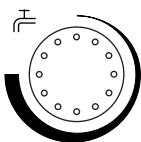

Fig. 9
4. **Domestic Hot Water:** The temperature of the domestic hot water can be adjusted by turning the control knob clockwise to increase up to a maximum of 65° C (Fig. 9).